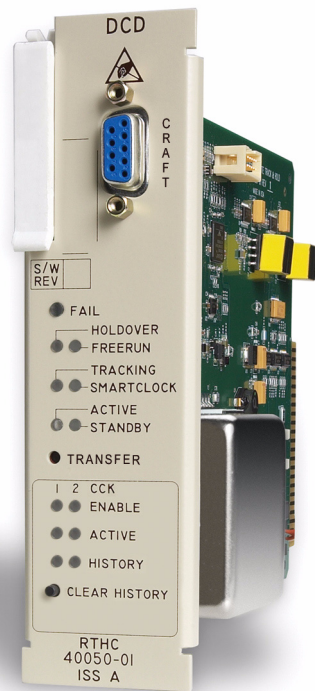

Figure 1. RTHC Faceplate
2.03 The RTHC faceplate is shown in Figure 1.